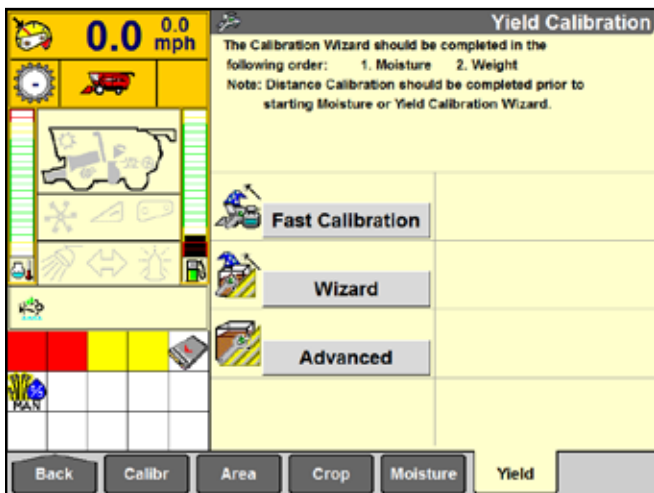

Figure 19.3
- The wizard is a step-by-step calibration system that walks the operator through the necessary steps for highly accurate calibration using multiple loads (see figure 19.3). Press the “Wizard” button to start yield calibration